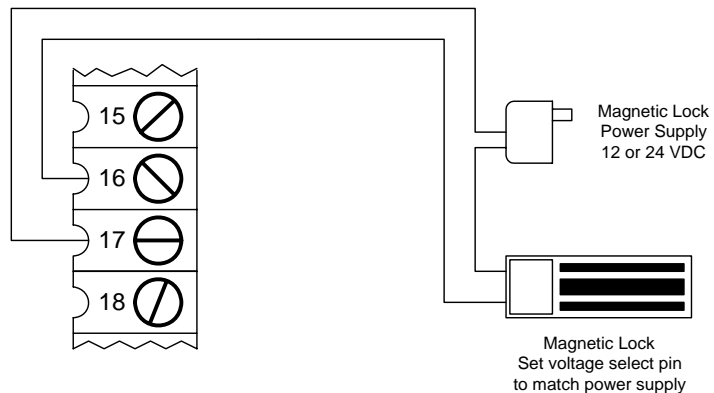

Figure 32
- Connect the magnetic lock as shown in Figure 32.